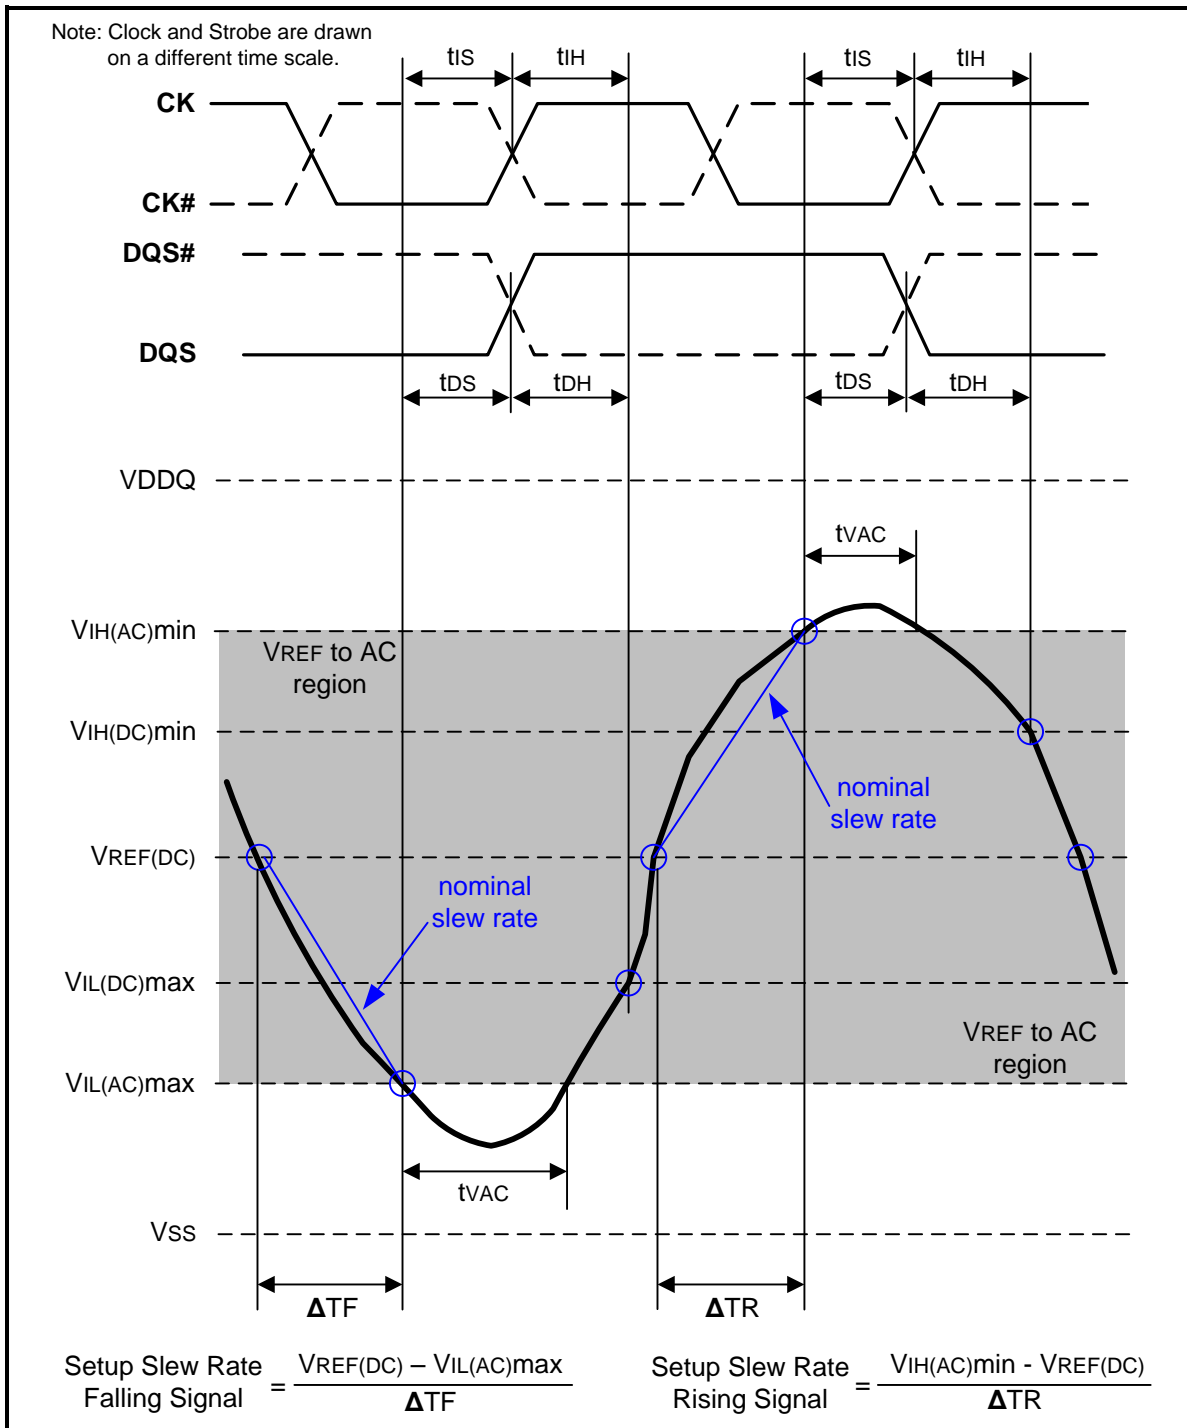
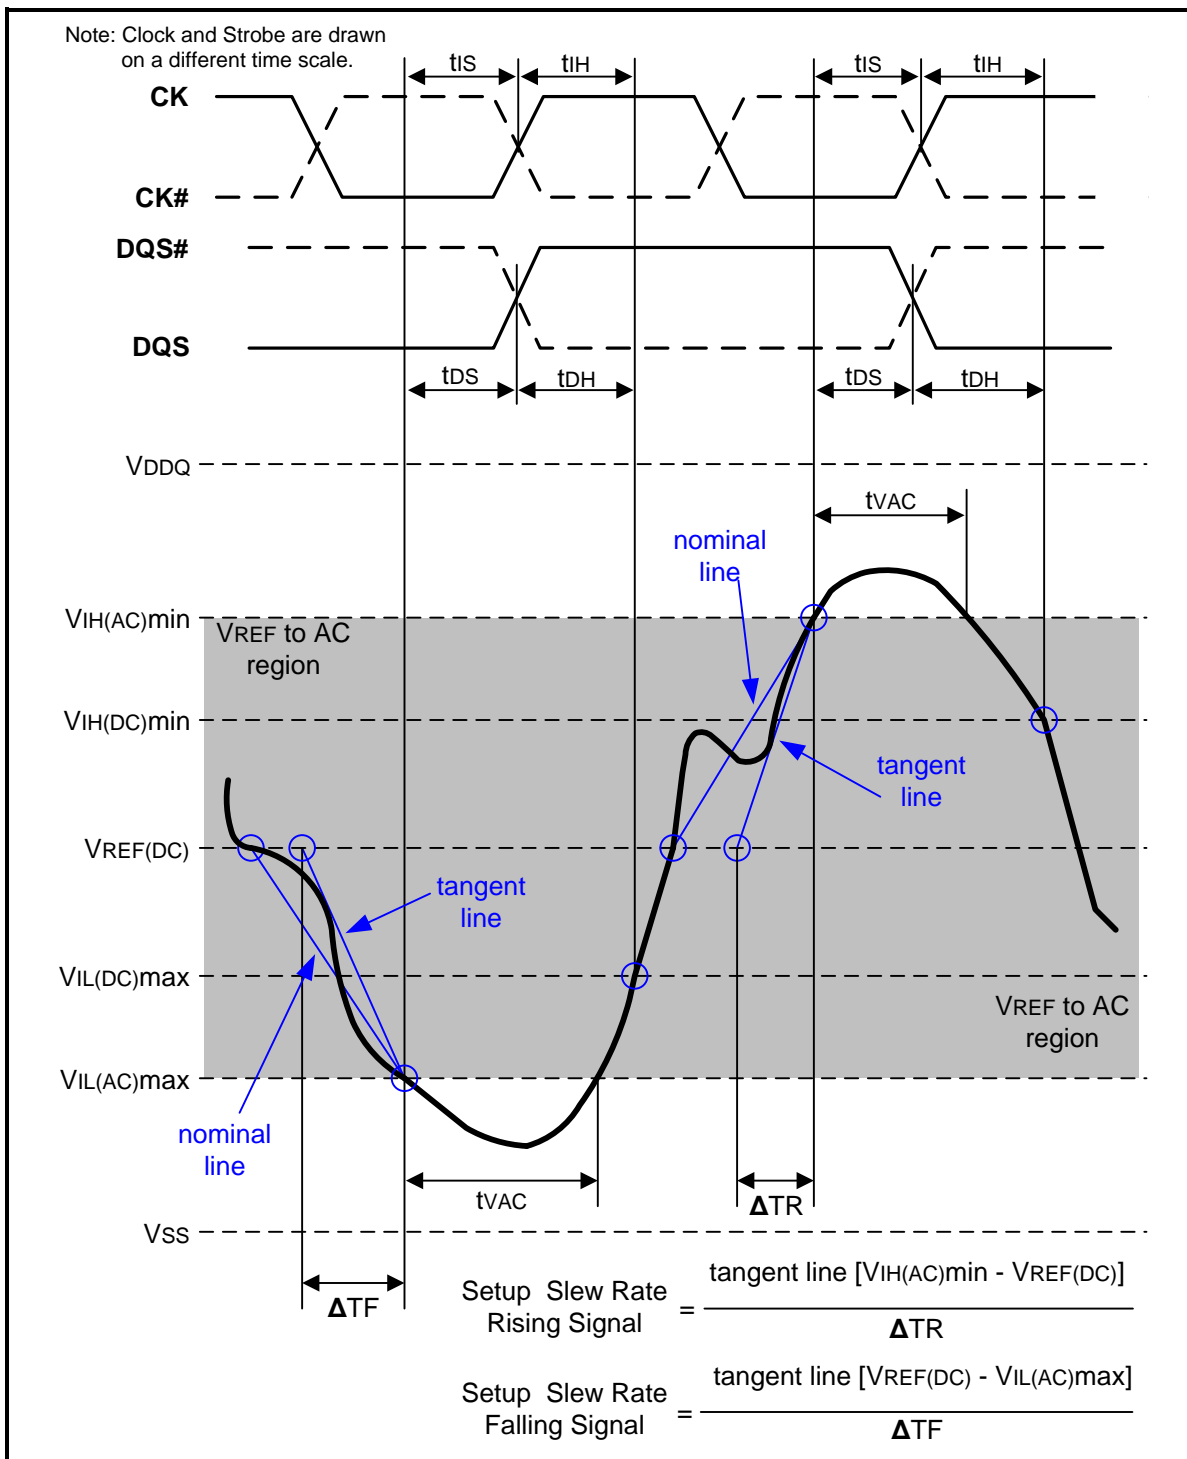

Figure 107 – Illustration of nominal slew rate and tVAC for setup time tDS (for DQ with respect to strobe) and tIS (for ADD/CMD with respect to clock)
Figure 109 – Illustration of tangent line for setup time t_{DS} (for DQ with respect to strobe) and t_{IS} (for ADD/CMD with respect to clock)
Setup (t_{IS}) nominal slew rate for a rising signal is defined as the slew rate between the last crossing of $V_{REF}(\text{DC})$ and the first crossing of $V_{IH}(\text{AC})_{\text{min}}$. Setup (t_{IS}) nominal slew rate for a falling signal is defined as the slew rate between the last crossing of $V_{REF}(\text{DC})$ and the first crossing of $V_{IL}(\text{AC})_{\text{max}}$. If the actual signal is always earlier than the nominal slew rate line between shaded 'VREF(DC) to AC region', use nominal slew rate for derating value (see Figure 107). If the actual signal is later than the nominal slew rate line anywhere between shaded 'VREF(DC) to AC region', the slew rate of a tangent line to the actual signal from the AC level to $V_{REF}(\text{DC})$ level is used for derating value (see Figure 109).
Setup (tDS) nominal slew rate for a rising signal is defined as the slew rate between the last crossing of VREF(DC) and the first crossing of VIH(AC)min. Setup (tDS) nominal slew rate for a falling signal is defined as the slew rate between the last crossing of VREF(DC) and the first crossing of VIL(AC)max (see Figure 107). If the actual signal is always earlier than the nominal slew rate line between shaded 'VREF(DC) to AC region', use nominal slew rate for derating value. If the actual signal is later than the nominal slew rate line anywhere between shaded 'VREF(DC) to AC region', the slew rate of a tangent line to the actual signal from the AC level to VREF(DC) level is used for derating value (see Figure 109).